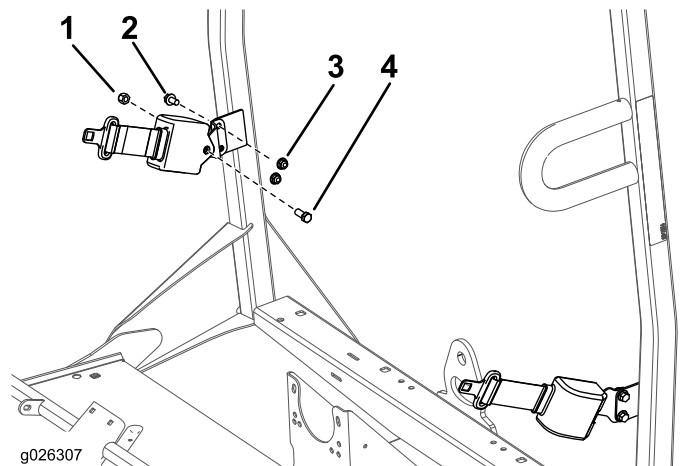

Figure 7
1. Mount a seat belt anchor bracket to each ROPS tab with 2 bolts (3/8 inch) and 2 nuts (3/8 inch) (refer to Figure 7).
2. Mount the retractable end of each seat belt assembly to each seat belt anchor bracket with a bolt (7/16 inch) and nut (7/16 inch) (Figure 7).